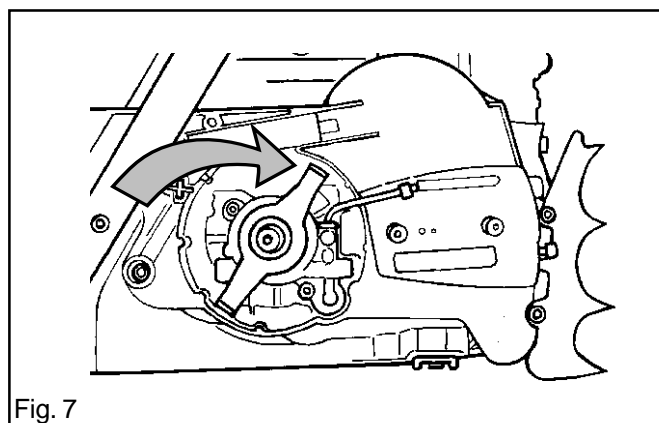

Fig. 7
8. Fit the drive wheel. See fig. 7.
In full throttle mode (fig. 7) both valves are open and fuel is supplied through all three diffuser jets (E, F and G).